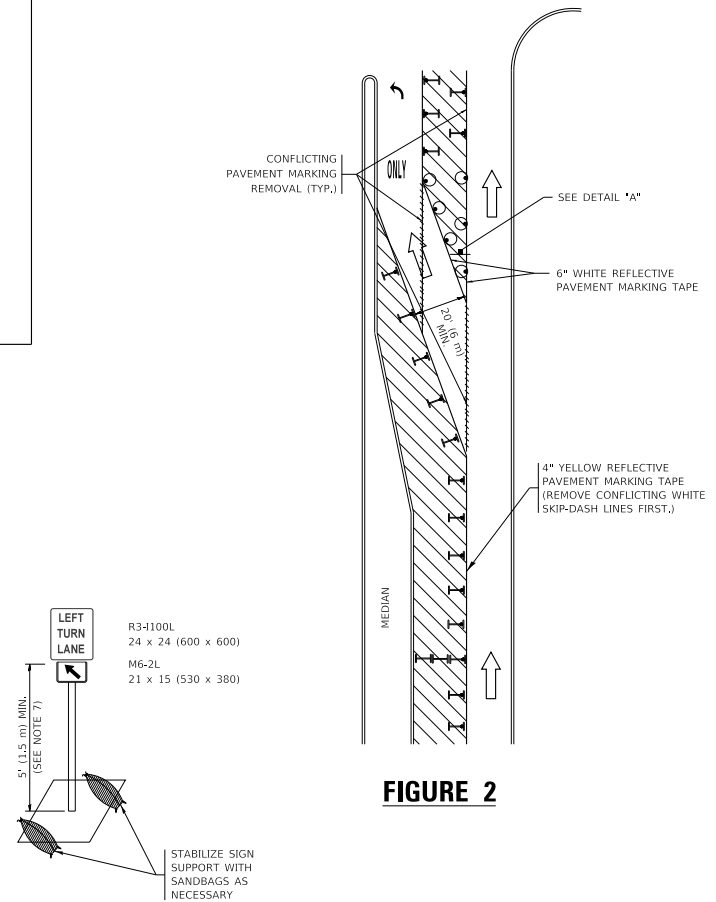

FIGURE 2
- B) WHEN "L" IS $>$ THE STORAGE LENGTH OF THE TURN LANE OR THE TURN LANE IS WITHIN THE LANE CLOSURE, USE FIGURE 2.
- CONES MAY BE SUBSTITUTED FOR BARRICADES OR DRUMS AT HALF THE SPACING DURING DAY OPERATIONS. CONES SHALL BE A MINIMUM OF 28 (710) IN HEIGHT.
- REFLECTIVE TEMPORARY PAVEMENT MARKINGS SHALL BE PLACED THROUGHOUT THE BARRICADED AREAS OF EACH TURN BAY AS SHOWN WHERE THE CLOSURE TIME IS GREATER THAN FOURTEEN (14) DAYS.
- THIS APPLICATION ALSO APPLIES WHEN WORK IS BEING PERFORMED IN THE RIGHT LANE(S) AND THE RIGHT TURN BAY IS TO REMAIN OPEN, UNDER THIS CONDITION, "RIGHT TURN LANE" R3-1100R 24 x 24 (600 x 600) AND M6-2R 21 x 15 (530 x 380) SHALL BE USED.